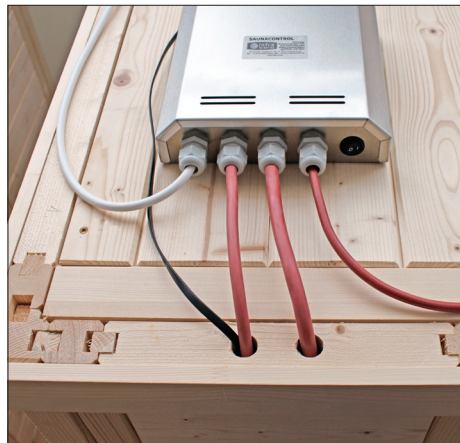

Fig. 8
- III. By using a pulling aid, lead the black connecting cable of the operating unit through the cable duct of the sauna onto the roof (Fig. 8).